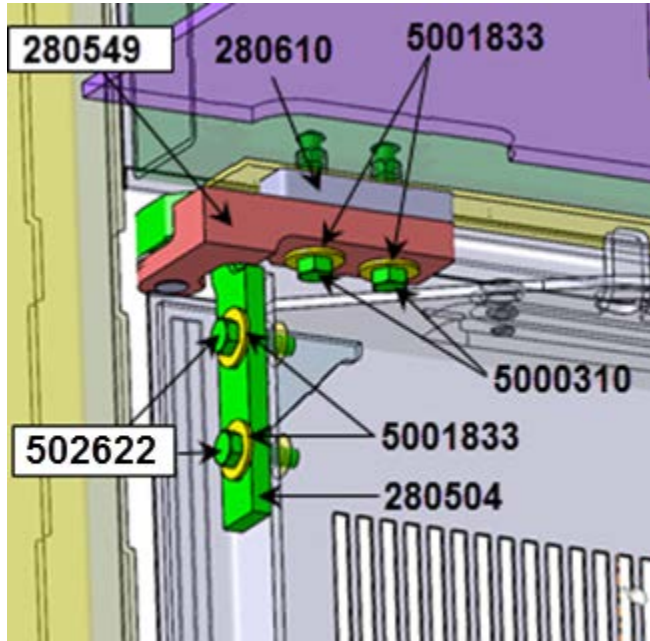

FIG.4 NEW UPPER HINGE
4. Install the new upper hinge (parts **280504**, **280549** & **280610** in kit Fig.4) making sure that:
- New M6 bolts and washers (**5000310** & **5001833**) are used at the upper (vehicle structure) mounting points (Fig.4).
- New M6 bolts (**502622** & **5001833**) are used at the door mounting points (Fig.4).